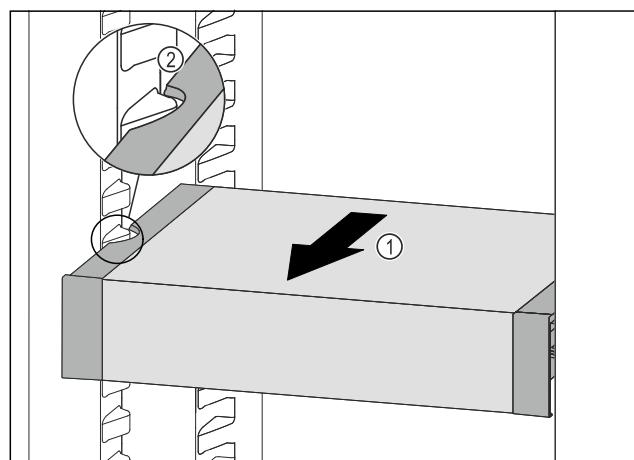

Fig. 136
- ▶ Pull VarioSafe forwards Fig. 136 (1) until the recesses in the side of the VarioSafe are at the level of the support rib in the fridge section. Fig. 136 (2)